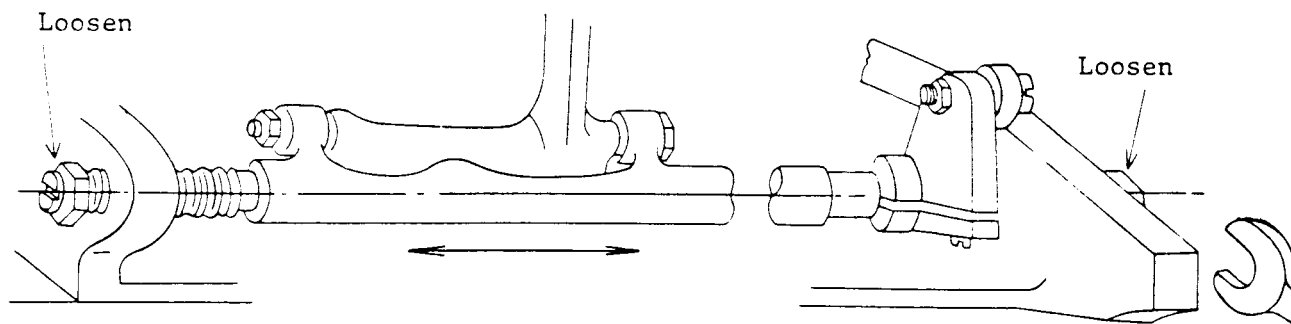

Fig. 20
- a. To move feed dog toward left, loosen screw center at left end of feed rock shaft (Fig. 20), as required, and tighten the other screw center an equal amount.